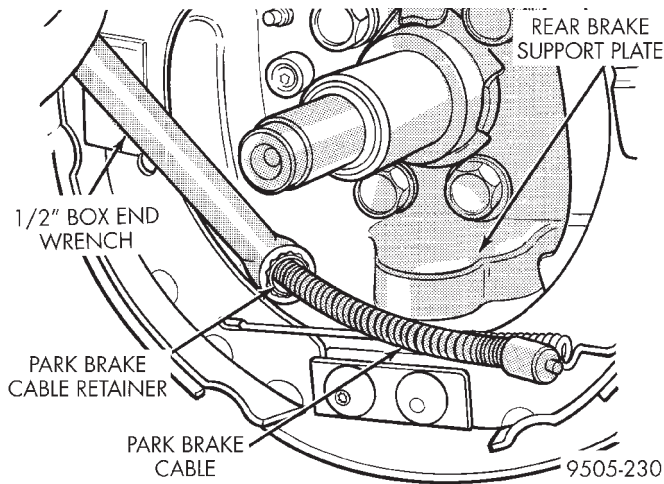

Fig. 126 Removing Park Brake Cable From Support Plate
(7) Position a 1/2 wrench over the retainer fingers on the end of the parking brake cable (Fig. 126). Compress cable housing retaining fingers and start cable housing out of support plate (Fig. 126). Remove wrench when retainer is free from the park brake cable mounting hole in the rear brake support plate. Alternate method is to use an aircraft type hose clamp over cable housing end fitting compressing the three fingers.
- (8) Remove the 4 brake support plate to knuckle attaching bolts and washer assemblies. Separate brake support plate from rear suspension knuckle.